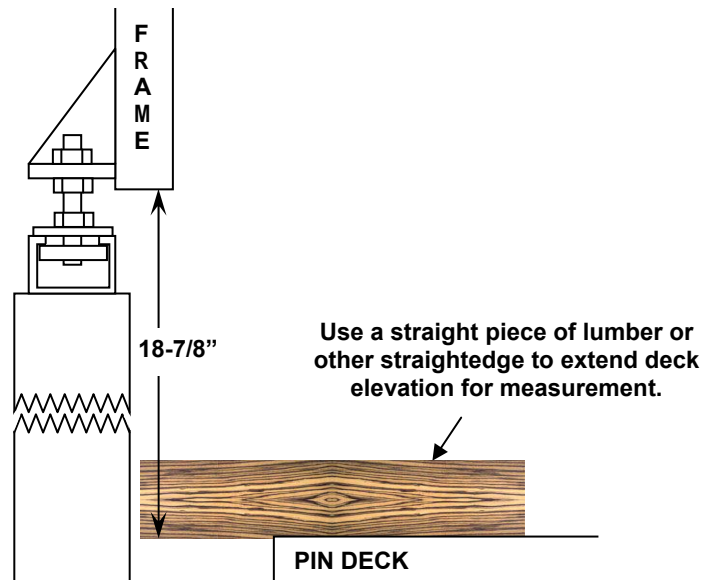

Figure 4.2-1
1. Verify that the vertical distance from the pin deck to the underside of the frame is  $18\text{-}7/8 \pm 1/8$  inches at all four corners. This measurement should be as nearly the same as possible at each corner, i.e. not 18-3/4 inches at one corner and 19 inches at another, although both numbers are within limits. A level or straight edge can be used to help make this measurement (see Figure 4.2-1). Making adjustments may also require adjustment of the back end's large leveling jack screws.